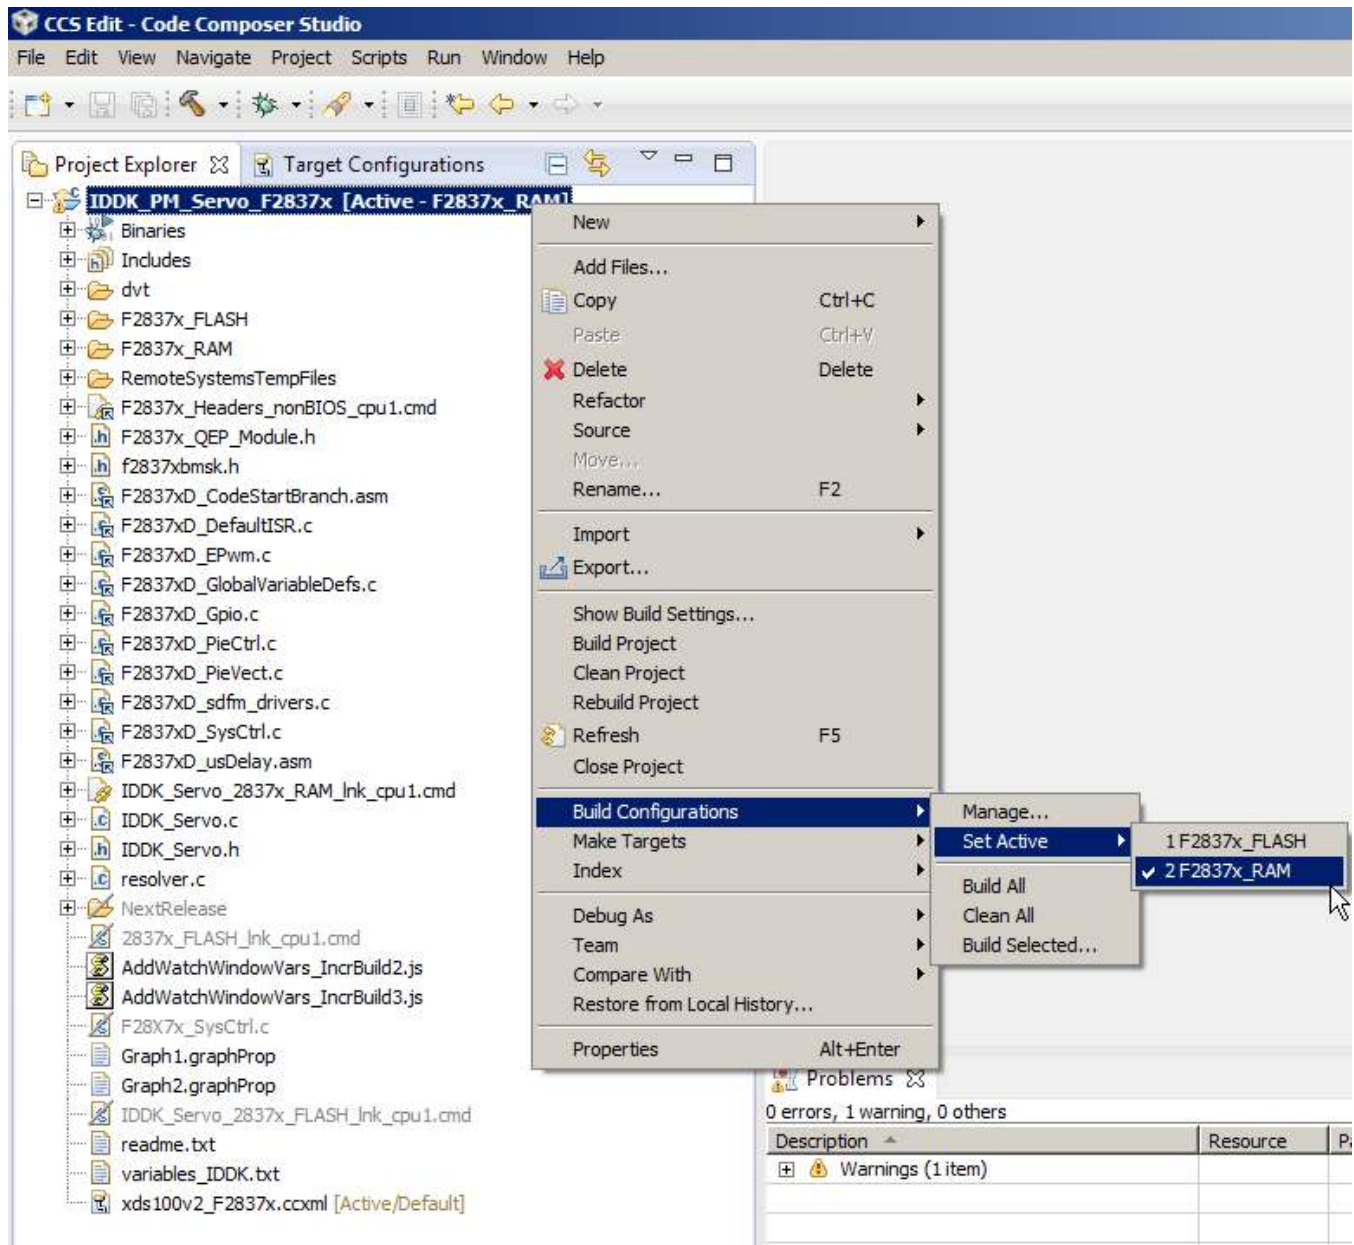

Figure 4-4. Selecting the F2837x_RAM Configuration
8. Click the *F2837x_RAM* configuration. (See Figure 4-4.)